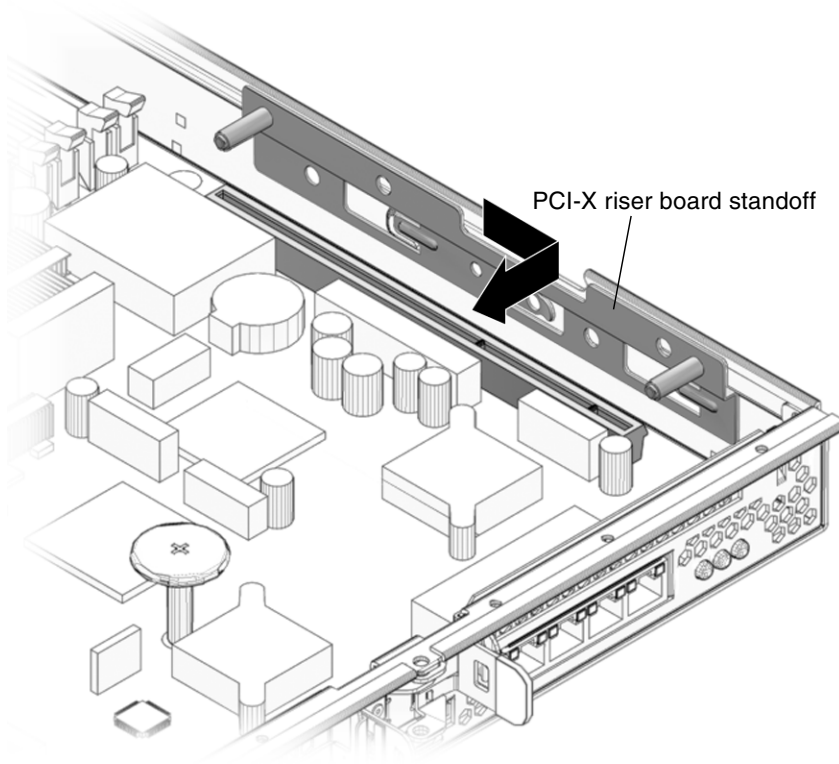

FIGURE 3-19 PCI-X Riser Board Standoff – Sun Fire V215
9. (Sun Fire V215) Remove the PCI-X riser board standoff (See FIGURE 3-19 and FIGURE 3-19).
12. **(Sun Fire V215) Reinstall the PCI-X riser board standoff (FIGURE 3-19).**